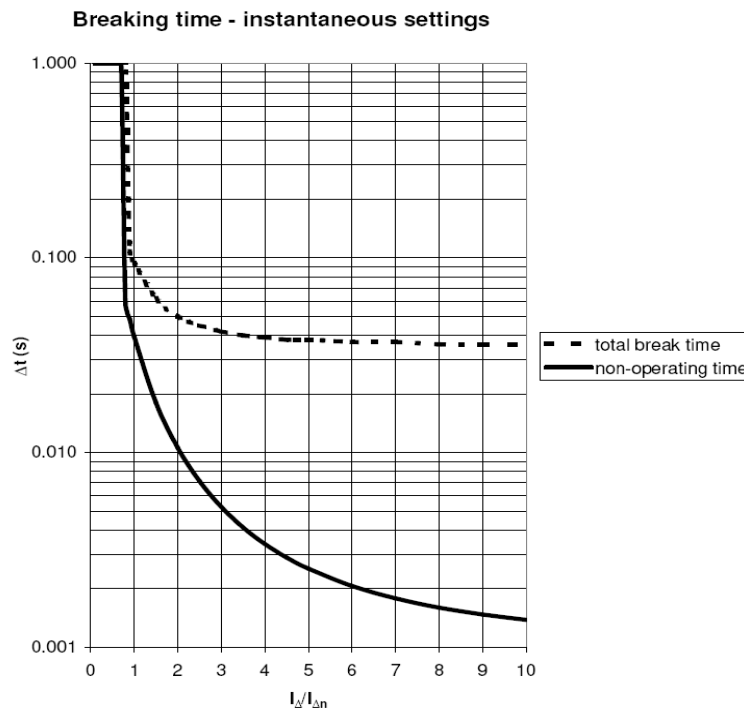
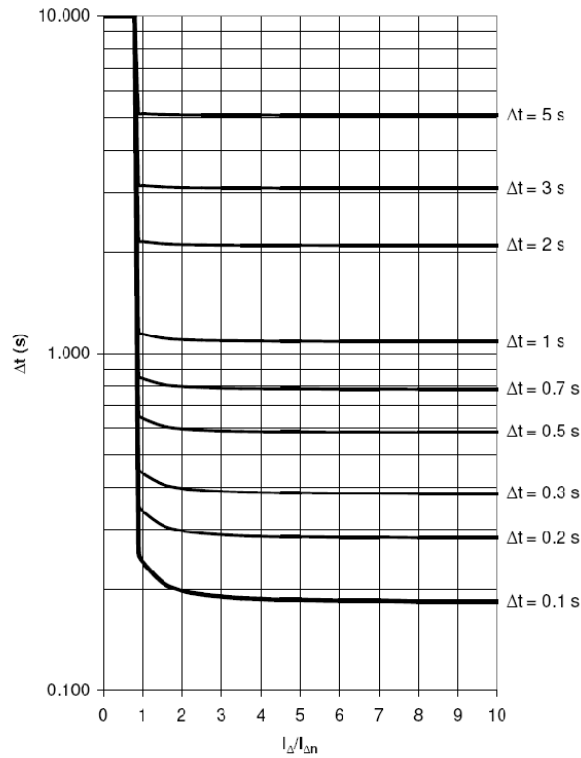

Figure 17. RCQ020 instantaneous protection characteristic
Figure 18. RCQ020 delayed protection characteristics
- non operating time (chronometric selection) and total break time (residual current protection unit delay plus actuator switching time), see Figure 17 and Figure 18
The next two figures show the RCQ020 trip characteristic in case of instantaneous and delayed residual current protection. In the Figure 18, the selectable total breaking times are depicted with the relevant non operative time, Δt .